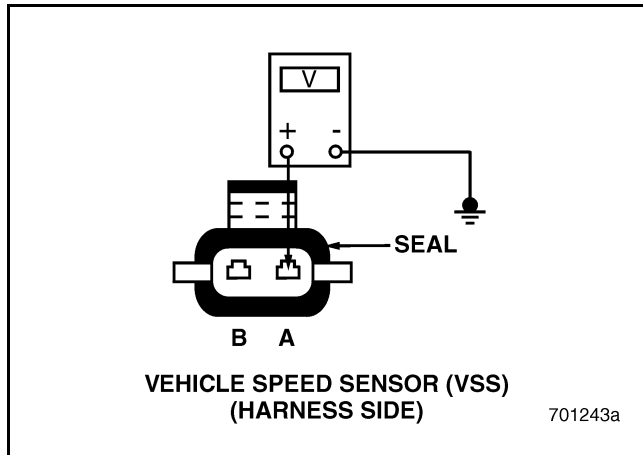

Figure 442
3. Measure the voltage between the harness side of VSS connector pin A and a good ground (see Figure 442).